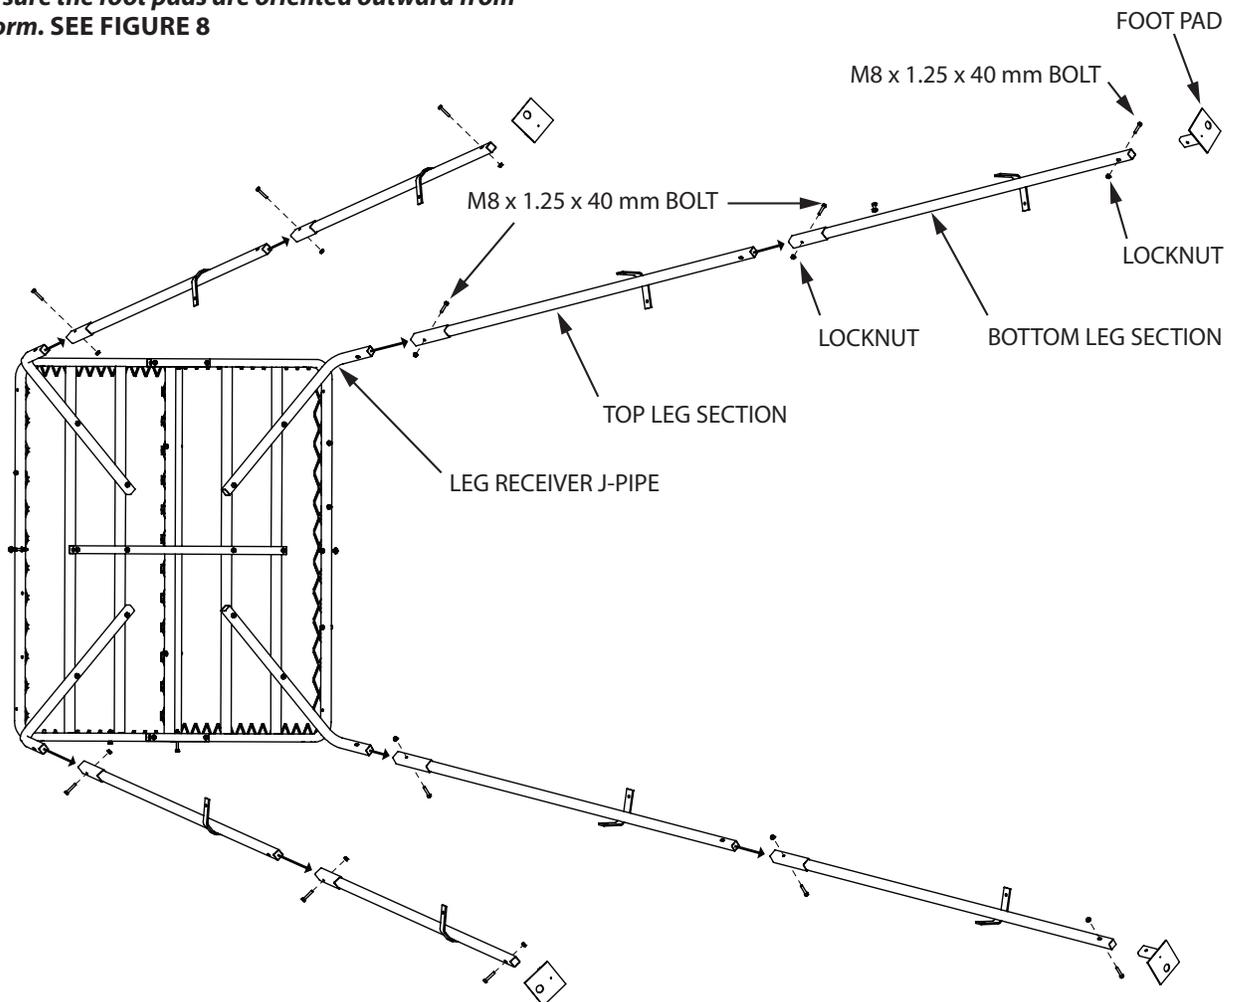

FIGURE 8
12. Attach foot pads (TP113) to four of the eight leg sections (TWR20) using (4) provided M8 x 1.25 x 40 mm bolts and locknuts. **SEE FIGURE 8.** This step now makes these four legs, the bottom section legs.
NOTE: Be sure foot pads are oriented correctly in relation to the welded on bracket of leg section. Channel on foot pads should cradle on three sides of the leg sections. SEE FIGURE 8
13. Insert each of the four remaining (top) leg sections into the bottom leg sections by inserting into pocketed end of bottom leg section. Attach each section together using (4) M8 x 1.25 x 40 mm bolt and locknut. **SEE FIGURE 8**
NOTE: Be sure the welded on brackets on each leg section are oriented correctly in relation to each other. SEE FIGURE 8
14. With assembled platform section laying on its side, insert all four assembled leg sections onto each leg receiver J-pipe using (4) provided M8 x 1.25 x 40 mm bolts and locknuts. **SEE FIGURE 8**
NOTE: Be sure the foot pads are oriented outward from the platform. SEE FIGURE 8